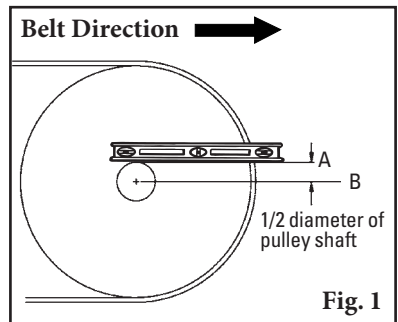

Fig. 1
3. Locate horizontal line from center of pulley shaft. Put a level on top of the pulley shaft and draw a horizontal line A. Measure down from Line A half the diameter of the pulley shaft and draw Line B parallel from the pulley shaft (Fig. 1).